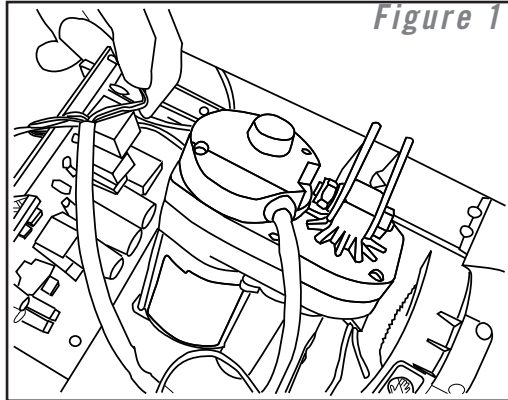

Figure 1
- 3) Disconnect elevation motor wires from the motor control board and grounding wire from the motor control board bracket (Figure 1).